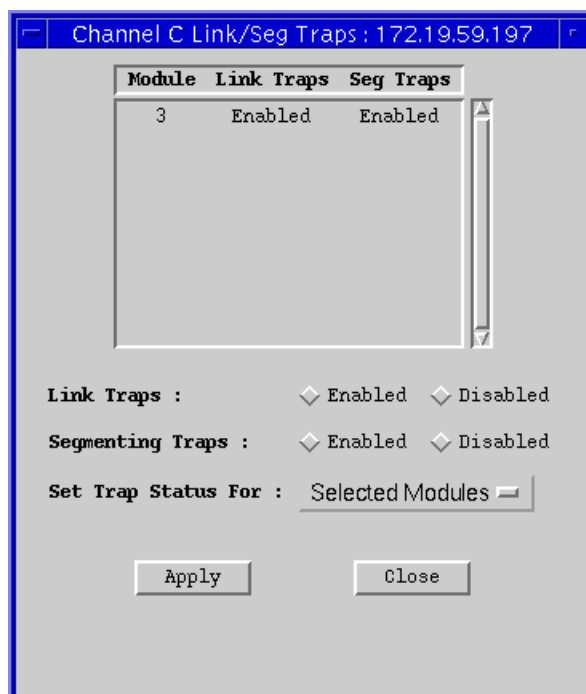

Figure 4-3. The Module Traps Window
2. Click mouse button 1 on **Module Traps**; the module traps window, Figure 4-3, will appear.